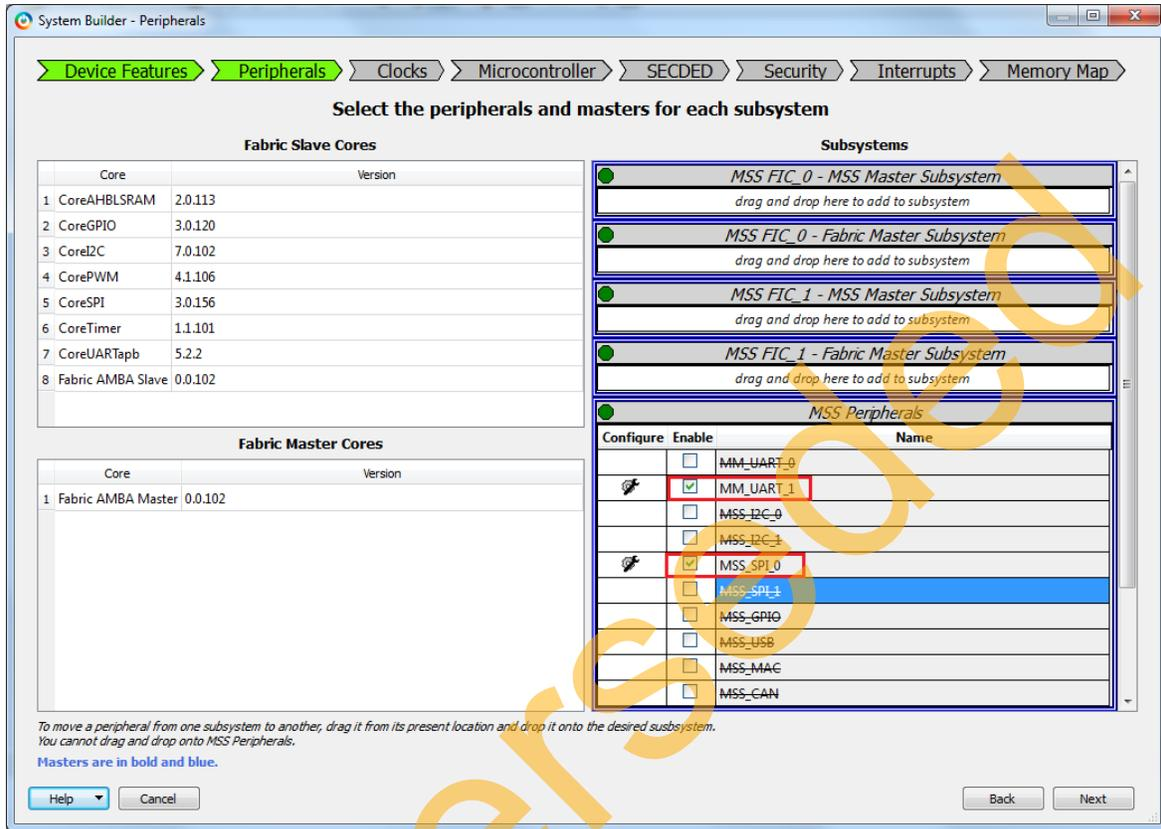

Figure 7 • System Builder Configurator – Peripherals Page
- Click **Next**. The **System Builder – Peripherals** page is displayed. Under the **MSS Peripherals** section, uncheck all the check boxes except **MM_UART_1** and **MSS_SPI_0**, as shown in Figure 7.